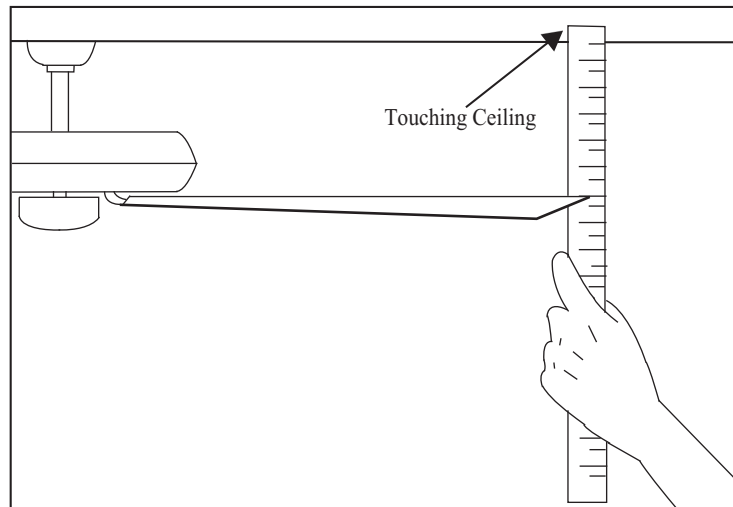

Figure 17
- Select a point on the ceiling above the tip of one of the blades, then select any fan blade and measure from the center of the selected blade to the point on the ceiling (as shown in Figure 17). Rotate the fan until the next blade is positioned and repeat the measurement using the same point from the ceiling for every blade. Measurement deviations should be within 1/8”.